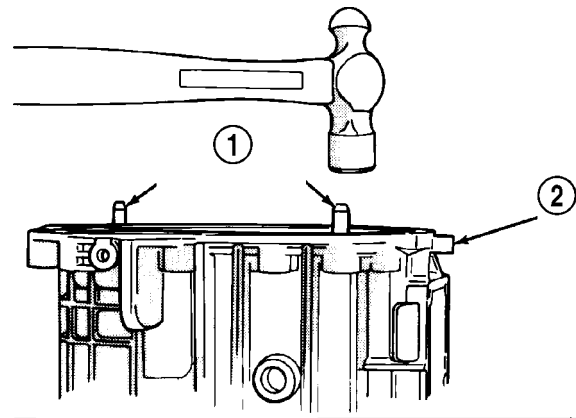

Fig. 95 REAR HOUSING DOWELS
(1) Drive adapter housing alignment dowels back into housing until dowels are flush with mounting surface (Fig. 95).
(2) Apply liberal quantity of petroleum jelly to countershaft rear bearing and bearing race.